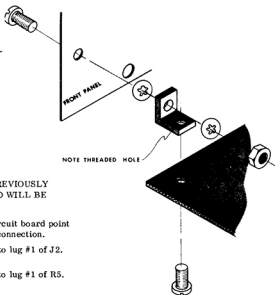

Figure 3 - Mounting Front Panel
- ( ) Fasten the two "L" brackets to the front panel using one 4-40 X 1/4 inch machine screw, two lockwashers and one 4-40 nut on each bracket. Note that the unthreaded hole in the "L" bracket is used in this operation as shown in figure 3.